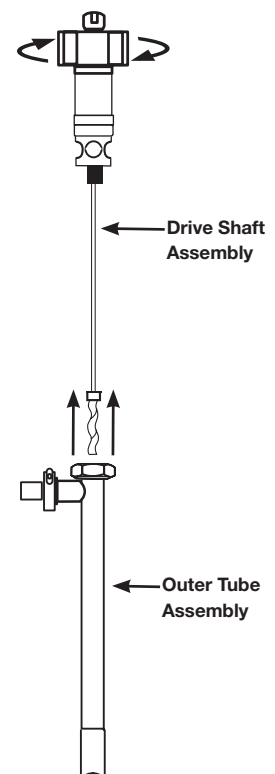

Figure 6
- Once the Hex Nut is loosened, remove the outer tube from the drive shaft assembly (see Figure 6).
- Once Bearing Housing, drive shaft, and rotor are securely threaded together, insert this assembly into the pump body (see Figure 6, page 4).